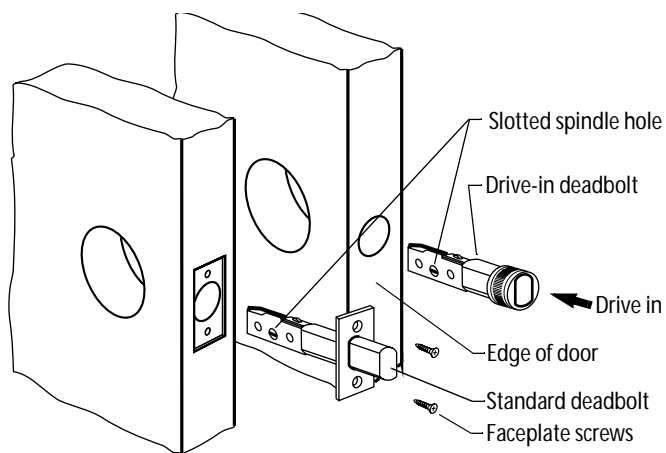

Figure 4 Installing the standard and drive-in deadbolts
- 1 Insert the standard deadbolt with the slotted spindle hole at the bottom of the assembly as shown in Figure 4.
- 2 Insert the deadbolt into the door with the slotted hole at the bottom of the assembly. See Figure 4.